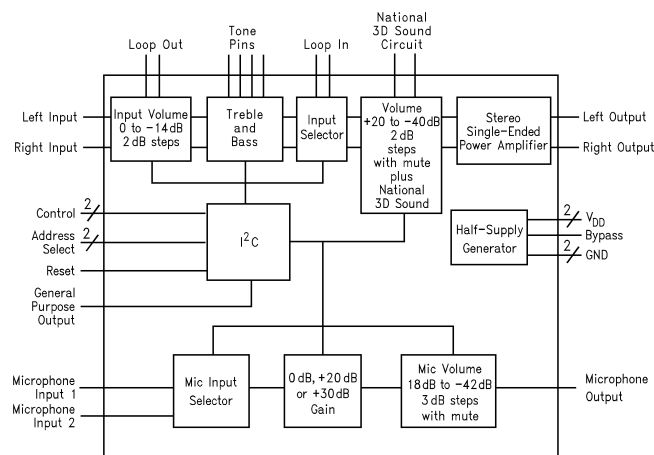

Figure 1. LM4832 Block Diagram
(1) All voltages are measured with respect to the ground pins, unless otherwise specified. All specifications are tested using the typical applications shown in Figure 1.
(2) Typicals are measured at $25^\circ C$ and represent the parametric norm.
(3) Limits are ensured AOQL (Average Outgoing Quality Level).
(4) Data sheet min and max specification limits by design, test, or statistical analysis.